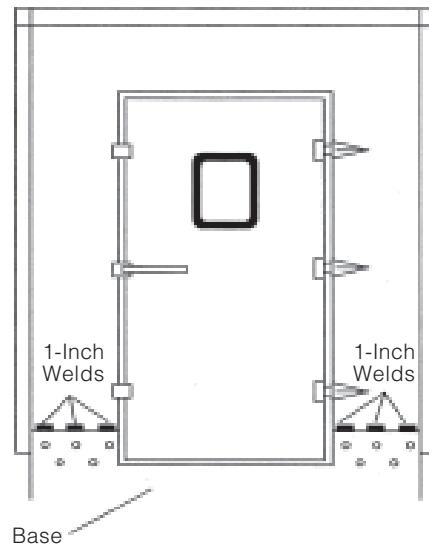

Figure 3-20. Weld Base
31. Weld base to face of corner panels using three 1-inch welds on both sides of door opening (see Figure 3-20).